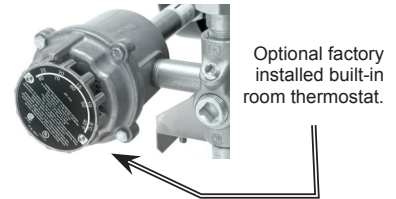

FIGURE 8
2. Heater may be supplied with a factory installed built-in room thermostat (see Figure 8). On heaters not supplied with this option, it is recommended that a remote room thermostat be used. Connect the remote room thermostat conductors to the printed circuit board terminal block "TSTAT". Any thermostat used with this heater must: